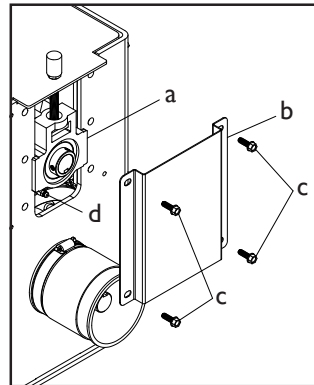

Figure 8: Greasing the Bearings
6. There are 2 take-up bearings (a) on the Superdrive pump that must be greased. To grease the bearings, first remove the take-up bearing cover (b) by removing the four 1/4" x 3/4" screws (c) that attach it to the main frame. Grease the bearings using the grease fitting (d) on the bottom of the bearing. Replace the bearing cover when finished (Figure 8).